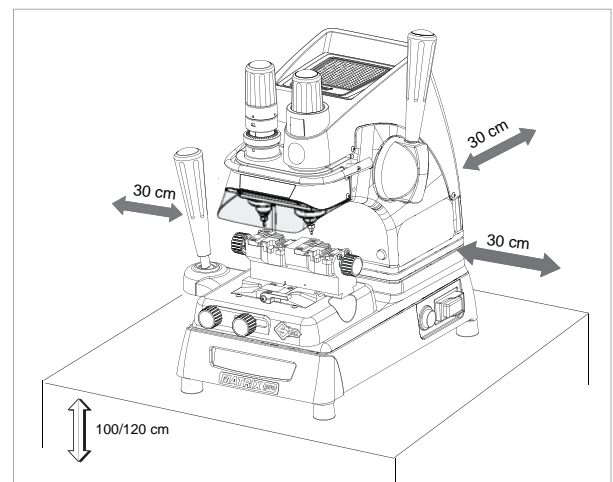

Fig. 11
- 1) Place the key-cutting machine on a solid horizontal work bench suitable for the weight of the machine (24,6 Kg). The work bench should be approximately 100-120 cm high to facilitate access to the working parts. We recommend leaving at least 30 cm clearance behind and around the machine to ensure good ventilation and facilitate handling (Fig. 11).